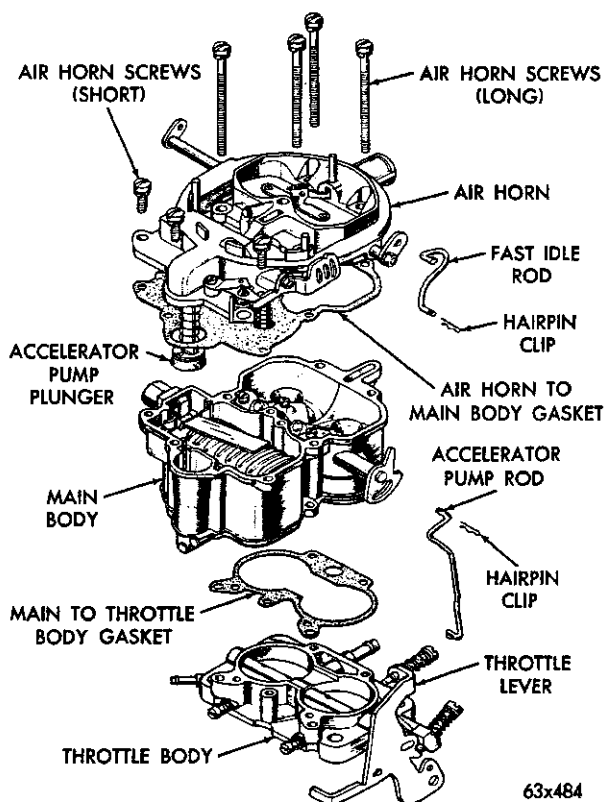

Fig. 2—Carburetor Assembly (Disassembled View)
(2) Install the air horn assembly on the main body, guiding the pump plunger into its well (Fig. 2.) (Be sure the leather does not curl or fold back.) Install retaining screws and tighten securely.